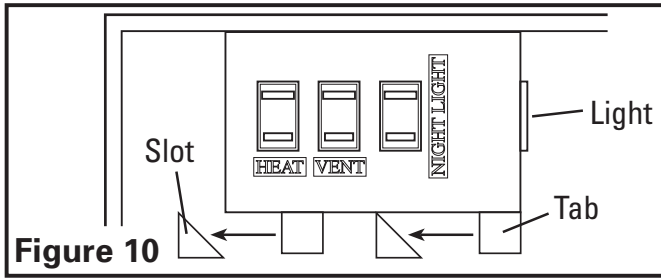

Figure 10
4. Reinstall the wire compartment cover by sliding the tabs at the bottom of the cover into the slots in the housing. Make sure all wires are tucked inside of the compartment and are not being pinched or showing through. Reinstall the two screws removed in **Step 3 of SECTION 1 Preparing the Unit (Figure 10)**.